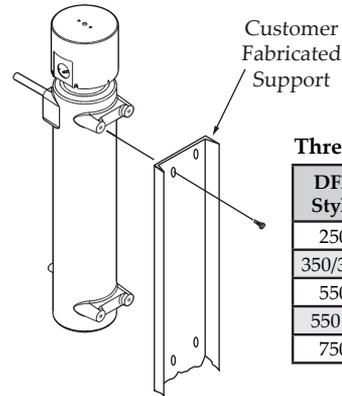

Figure 1
2. Mount the heater to a structural member using the tapped holes on the mounting legs (Figure 1). Do NOT use tubing and tubing connections to support the heater. The structural member should have slotted holes on one end to allow for heater expansion and contraction. Mounting bolts should be torqued in accordance with SAE standards.